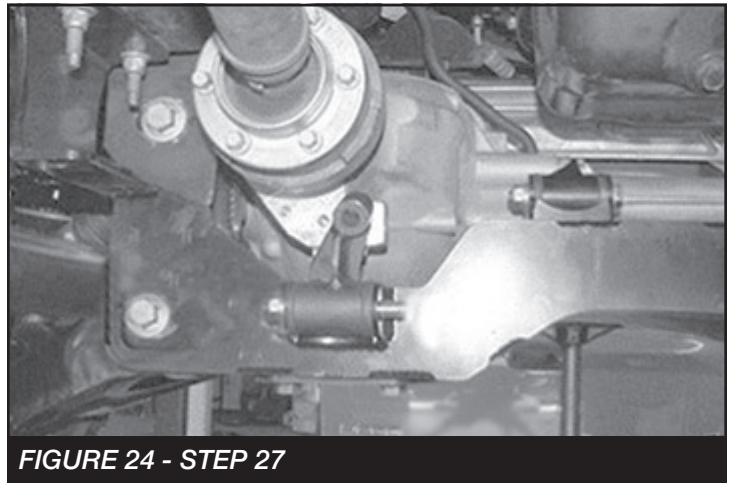

FIGURE 24 - STEP 27
27. Locate the rear diff mount (FT30422). Install two of the Fabtech (FT1020) bushings and one sleeve (FT181) into the barrel on the differential bracket. Install the diff mount into the rear crossmember tabs behind the diff using a 1/2"-13x31/2" bolt, nut and washers. Leave all hardware loose. **SEE FIGURE 24**